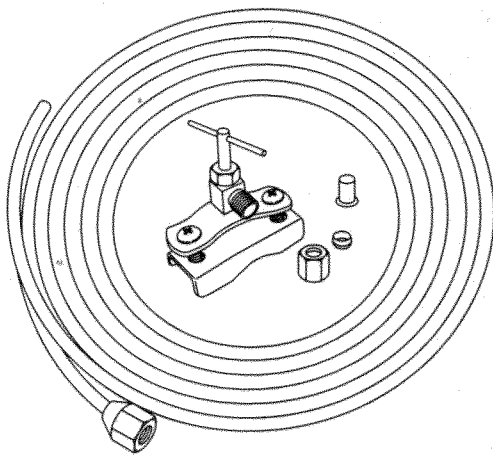

Figure 14
- Use a 1/4" OD copper line to connect the water supply to the solenoid valve. **This is not supplied with the refrigerator (Figure 14).**